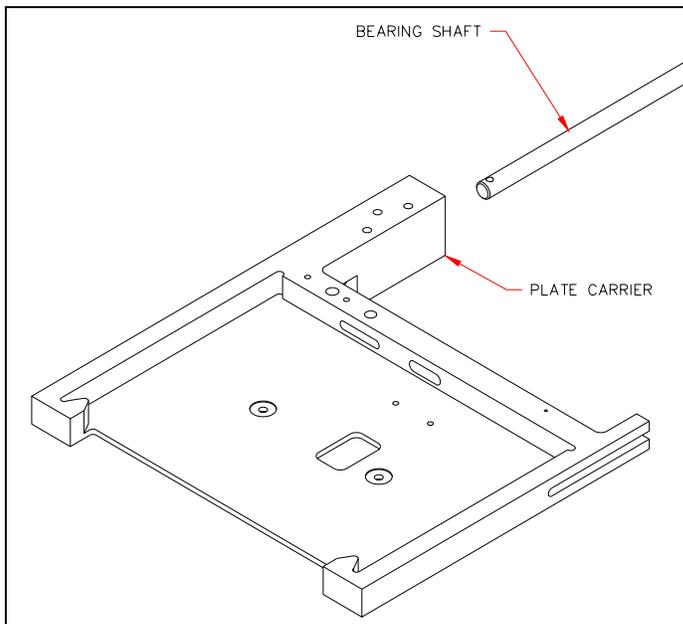

Figure 11-16 Plate Carrier Assembly
- 3 Remove the plate carrier from the bearing shaft as shown in Figure 11-16.
- 1 Slide the bearing shaft into the Plate Carrier Assembly (Figure 11-16).